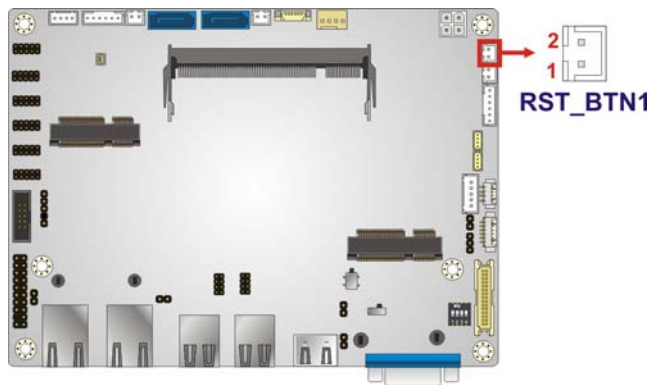

Figure 3-19: Reset Button Connector Location
- CN Location: See **Figure 3-19**